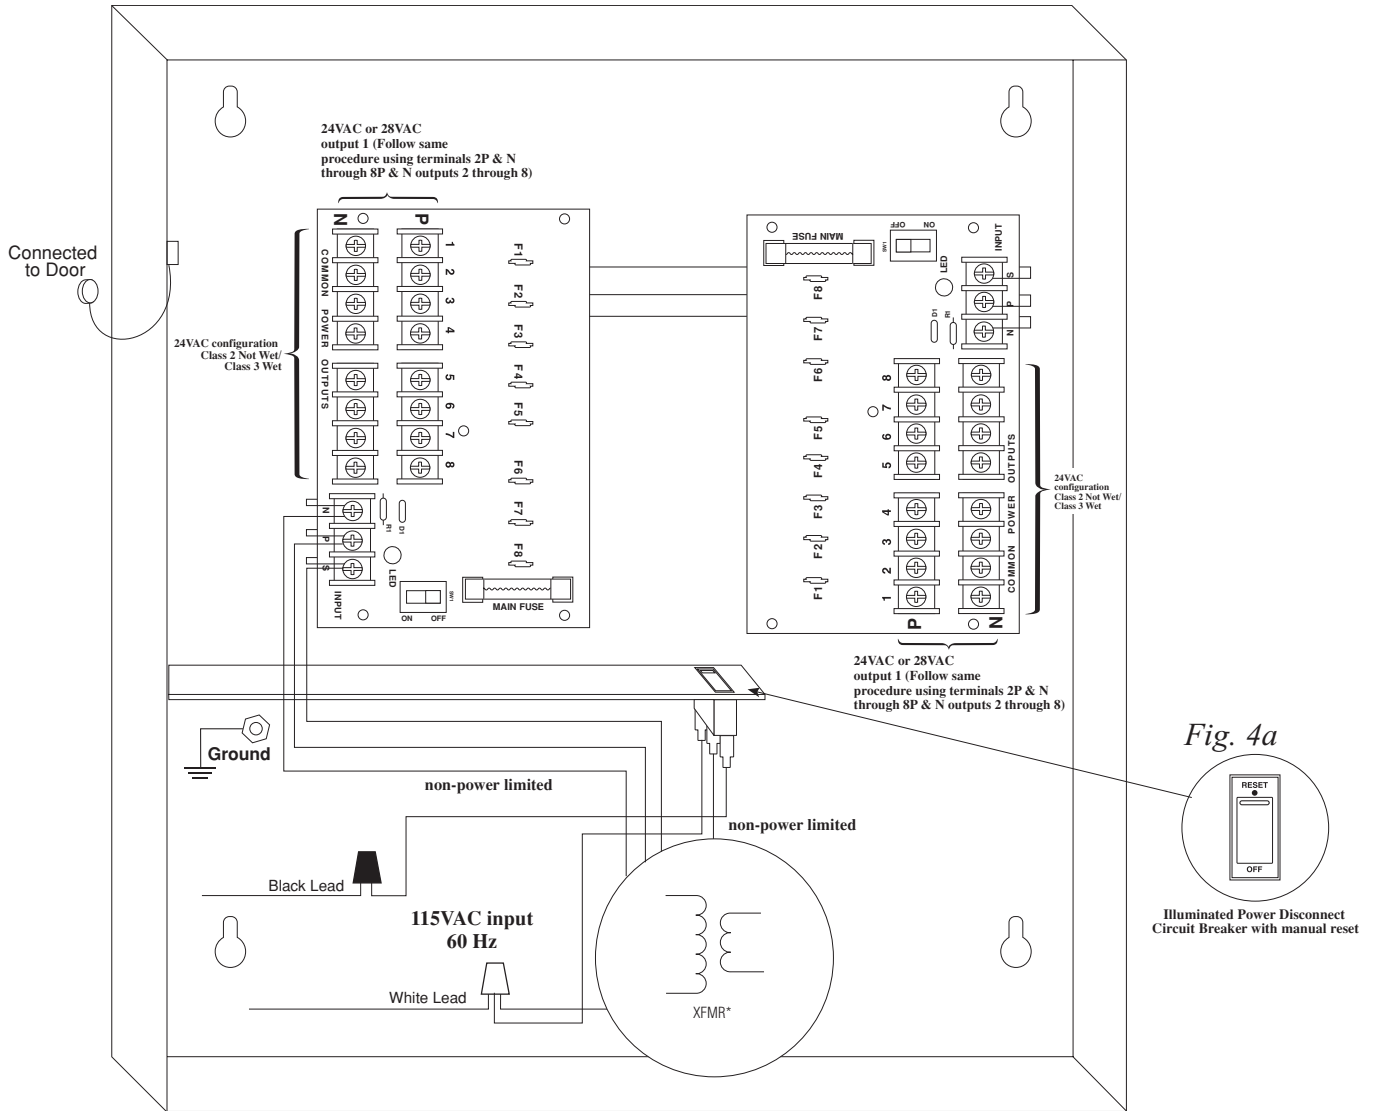
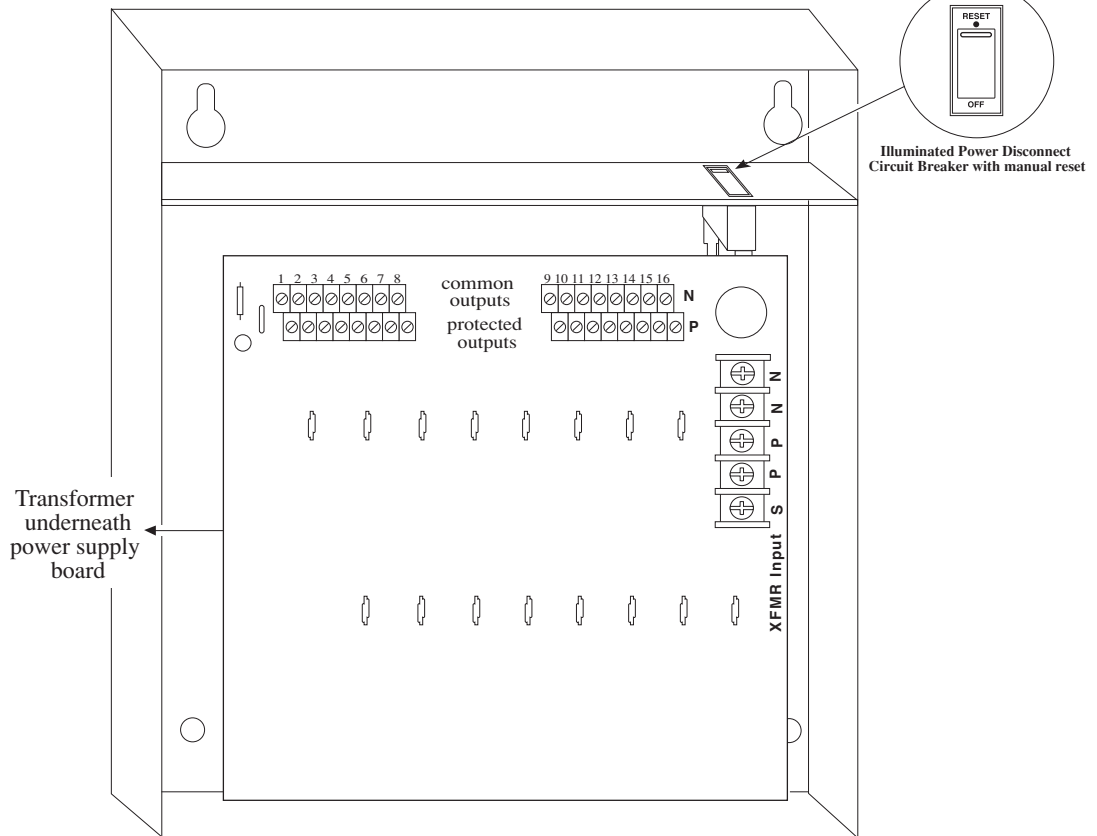

Fig. 5
Fig. 7
8. Connect devices to terminals marked [1P - 1N] through [8P - 8N] on PD8 board (*Figs. 1 - 4, pgs. 4 - 7, Figs. 7 - 8, pgs. 9 - 10*), or terminals marked [1P - 1N] through [16P - 16N] on PD16W/PD16WCB board (*Figs. 5 - 6, pg. 8*), carefully observing polarity.